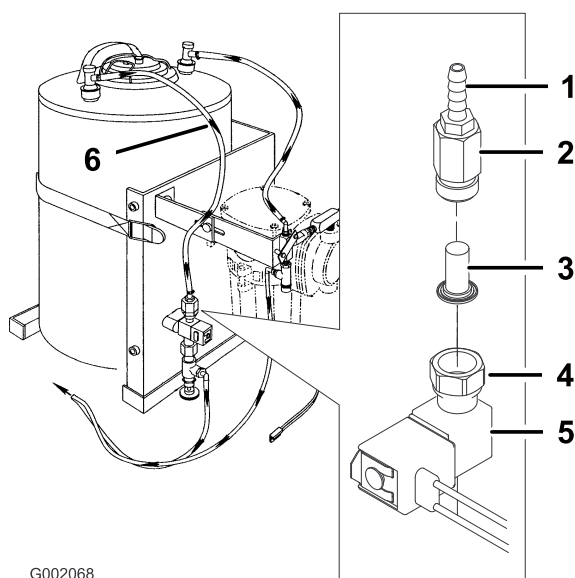

Figure 34
Important: Dried foam agent and debris can clog the strainer (Figure 34), causing slow or no
4. Unscrew nozzle body and hose barb from nozzle adapter and solenoid assembly. Remove strainer (Figure 34).
6. Assemble strainer and nozzle body/hose barb as shown in Figure 34 and install into nozzle adapter/solenoid assembly.